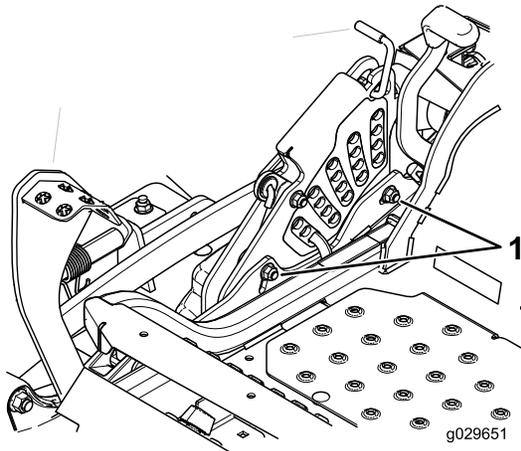

Figure 94
12. To adjust the single point system, loosen the 2 bolts at the bottom of the height-of-cut plate. Refer to Figure 94.
14. Torque the 2 bolts at the bottom of the height-of-cut plate (Figure 94) to 37 to 45 N·m (27 to 33 ft·lb).